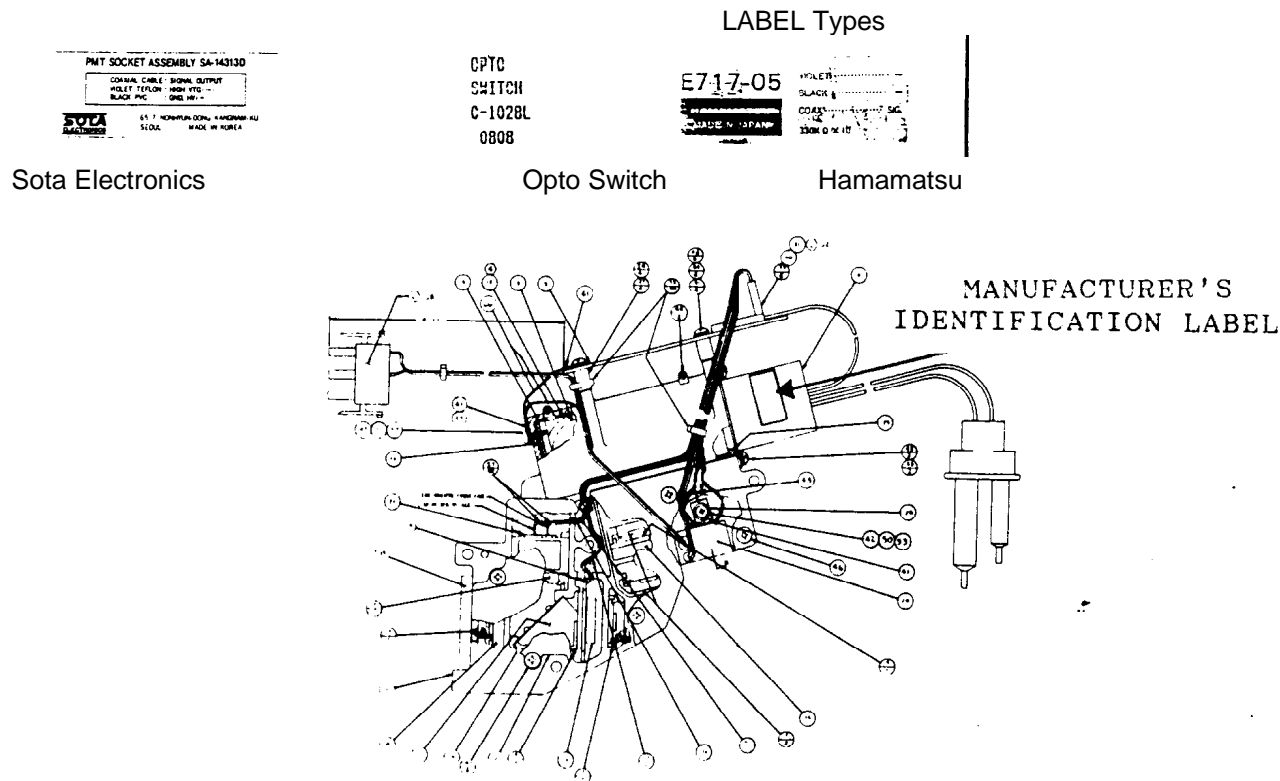

Figure 1
4. Inspect the PMT Socket for a manufacturer's identification label (See Figure 1). Hamamatsu and Sota Sockets will have a Silver Label with light blue print. It is IMPERATIVE the label be read to determine its type. Opto Switch Sockets DO NOT have a silver label. they are stamped with WHITE INK. If sockets are found which do not have any labels at all, they are to be treated as NON-CONFORMING sockets.